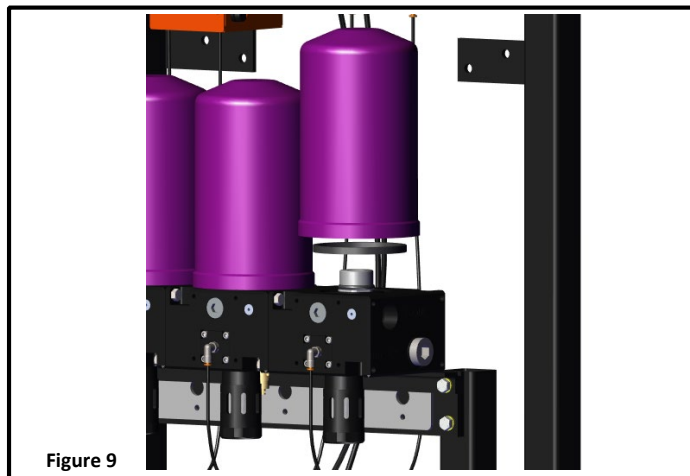

Figure 9
6. Install O-ring onto mounting stud. *Figure 9*